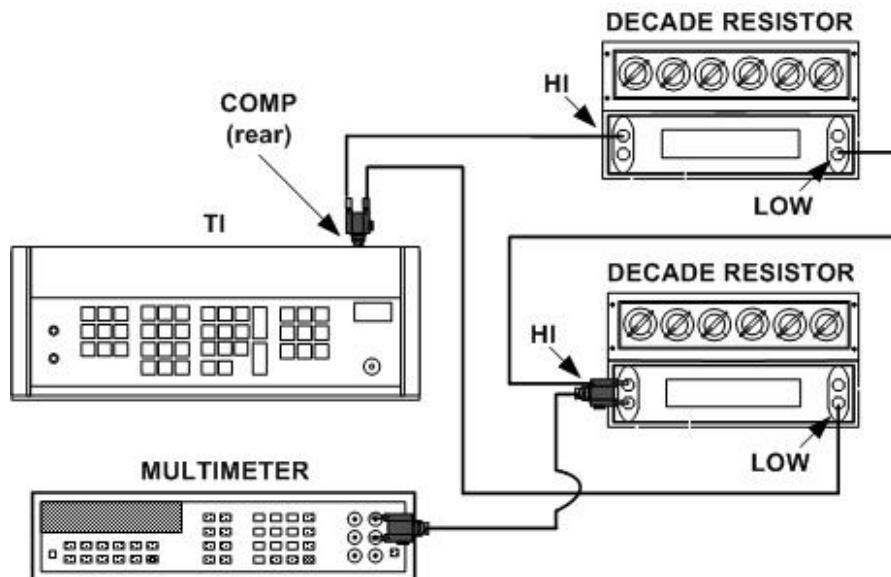

Figure 3. Localizer DDM - equipment setup.
- (1) Connect multimeter to TI COMP output (rear panel).
- (2) Press **FUNCTION/CONTROL STD** pushbutton and enter a frequency of 108.10 MHz into TI.
- (3) Press **TONE SELECT 90 Hz** pushbutton (all other **TONE SELECT** pushbuttons off). Record multimeter indication
- (4) Press **TONE SELECT 150 Hz** pushbutton (all other **TONE SELECT** pushbuttons off). Record multimeter indication.
- (5) Divide the measured value of one tone by the other to determine the voltage ratio. If calculated ratio is not between 0.99950 and 1.00050, perform b (1) through (3) below.
(6) Press **TONE SELECT 1020 Hz** pushbutton (all other **TONE SELECT** pushbuttons off). If multimeter does not indicate between 1.4985 and 1.5015 V rms, perform **b** (4) below.
(7) Connect multimeter to **TI DEMOD** output (rear panel). Repeat (3) through (5) above. Calculated ratio will be between 0.99720 and 1.00280.
(8) Connect equipment as shown in figure 3.
(9) Set each decade resistor to $47\text{ k}\Omega$.
(10) Press **TONE SELECT 90 Hz** pushbutton (all other **TONE SELECT** pushbuttons off) and enter a **DDM** setting of 0.046 into **TI**. Record multimeter indication.
(11) Press **TONE SELECT 150 Hz** pushbuttons (all other pushbuttons off). Record multimeter indication.
(1) Connect multimeter to **TI COMP** output (rear panel).
(2) Press **FUNCTION/CONTROL STD** pushbutton and enter a frequency of 335.00 MHz into **TI**.
(3) Press **TONE SELECT 90 Hz** pushbutton (all other **TONE SELECT** pushbuttons off). Record multimeter indication.
(4) Press **TONE SELECT 150 Hz** pushbutton (all other **TONE SELECT** pushbuttons off). Record multimeter indication.
(5) Divide the measured value of one tone by the other to determine the voltage ratio. Calculated ratio will be between 0.99975 and 1.00025.
(6) Connect multimeter to **TI DEMOD** output (rear panel).
(7) Repeat (3) through (5) above. Calculated ratio will be between 0.99745 and 1.00255.
(8) Connect equipment as shown in figure 3. Set decade resistor to 47 k Ω .
(9) Press **TONE SELECT 90 Hz** pushbutton (all other **TONE SELECT** pushbuttons off) and enter the first **DDM** setting in table 10. Record multimeter indication.